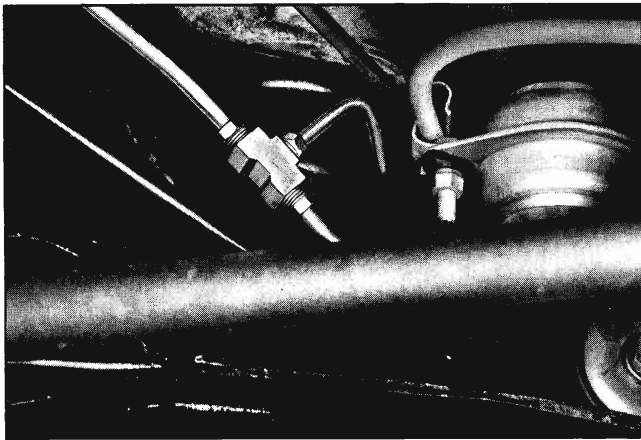

Fig. 3-37 Junction For Brake Lines
5. Disconnect brake lines at junction block (Fig. 3-37).